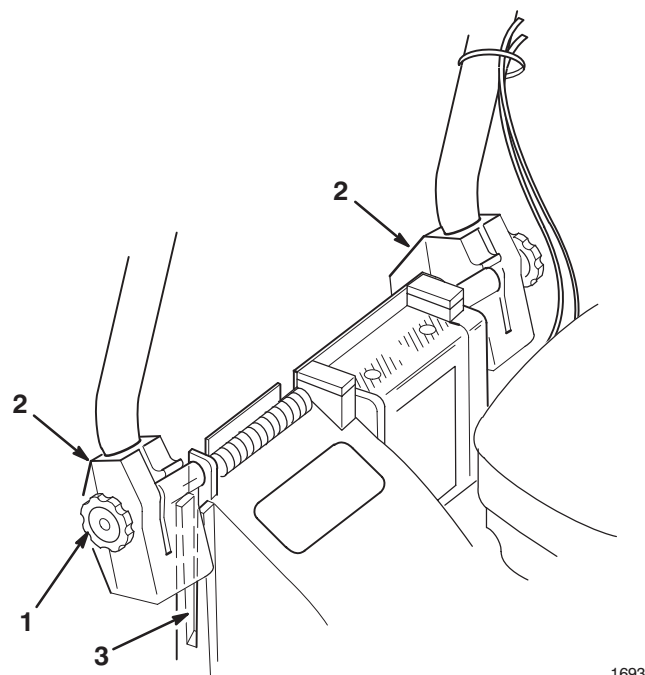
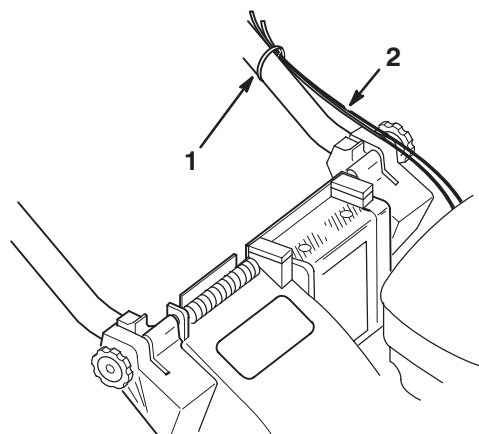

Figure 1
Figure 2
1. Loosen knobs on mounting brackets (Fig. 1).
3. Slide handle ends into holes in mounting brackets until handle ends are completely seated in brackets (Fig. 1). Make sure cables are positioned on top of left mounting bracket (Fig. 2).
4. Rotate handle and mounting brackets rearward until brackets fit securely into housing pockets (Fig. 2).
6. Use cable ties to secure cables to left handle (Fig. 2).